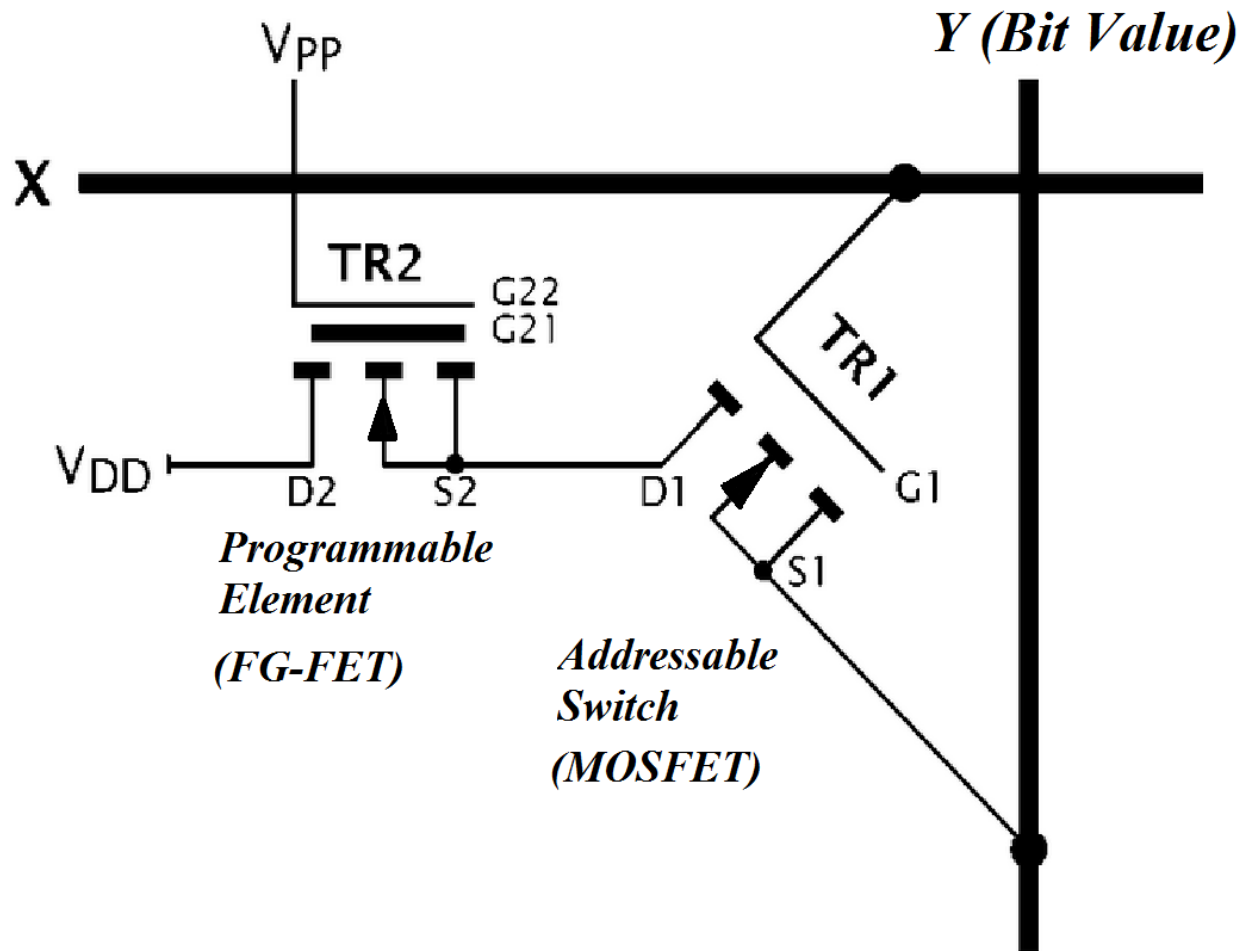

Fig. 3.1.11 A simple EPROM Cell
- ✓ This means that they **can be erased while still installed** in the system by using a negative pulse on V_{pp} of the EPROM of figure 3.1.11. This makes the electrons to tunnel back.
- ✓ In the Floating Gate FET, electrons can be channeled from the drain to the floating gate (FG) by giving them enough energy to cross the oxide silicon barrier – **Channel Hot Electron (CHE)**, sometimes **FN Tunneling** can be used.
- ✓ Once these electrons are trapped on the FG, they can be used to modulate the Control Gate (CG) voltage and therefore increase the threshold required to activate the channel as shown below.